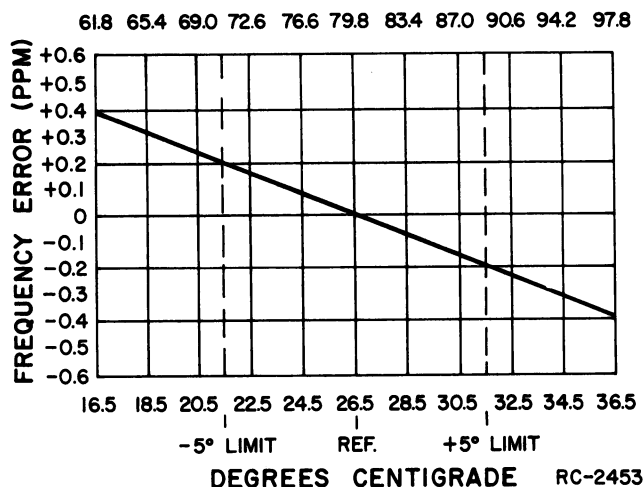

Figure 5 - ICOM Frequency Offset Chart
- b) Maintain the radio at 26.5°C ( $\pm 10^\circ\text{C}$ ) and offset the oscillator, as a function of actual temperature, by the amount shown in Figure 5.
2. To hold setting error to  $\pm 0.35$  PPM (which is considered reasonable for 2 PPM ICOMs): Maintain unit at 26.5°C ( $\pm 5^\circ\text{C}$ ) and offset the oscillator, as a function of actual temperature, by the amount shown in Figure 5.